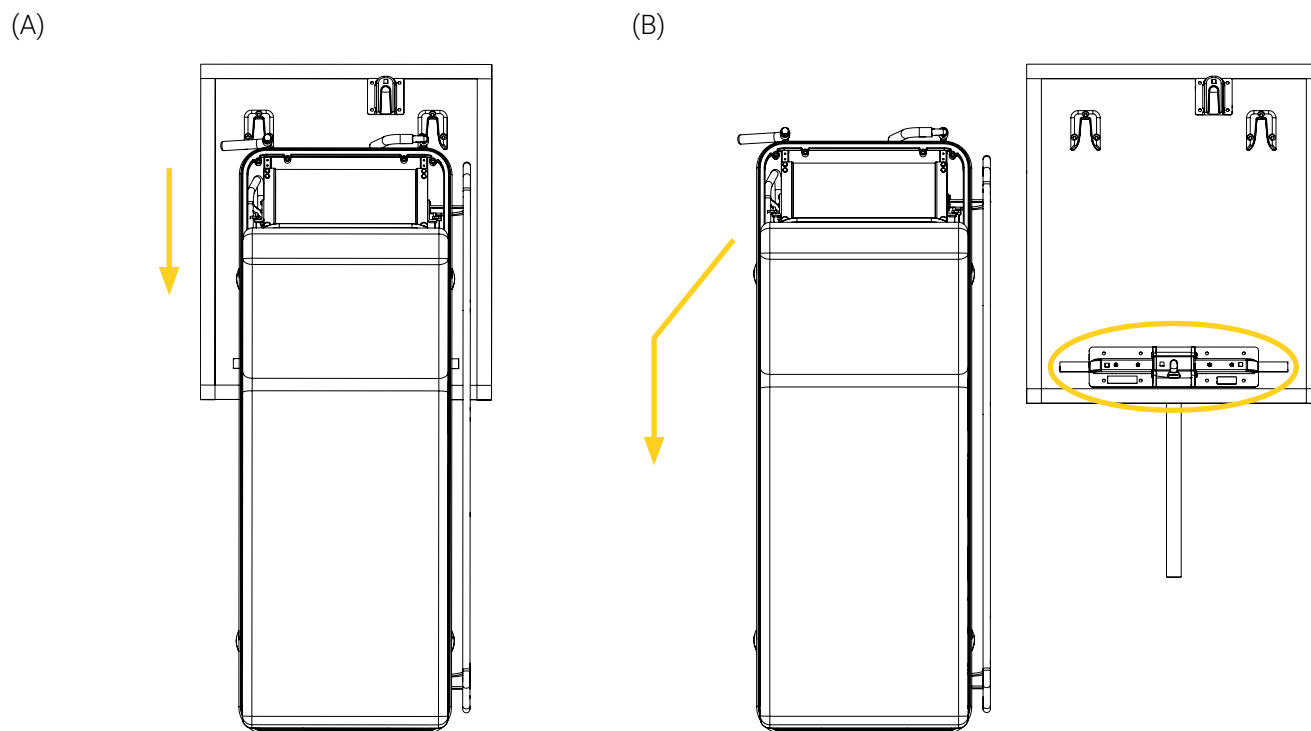

Figure 20: Safely steering the stretcher away from the anchoring system
3. Steer the patient foot end of the stretcher out of the tripping hazard perimeter, ensuring to safely avoid the Floor Anchor (Figure 20). Refer to the « Safety Measures » section on page 13 if needed.